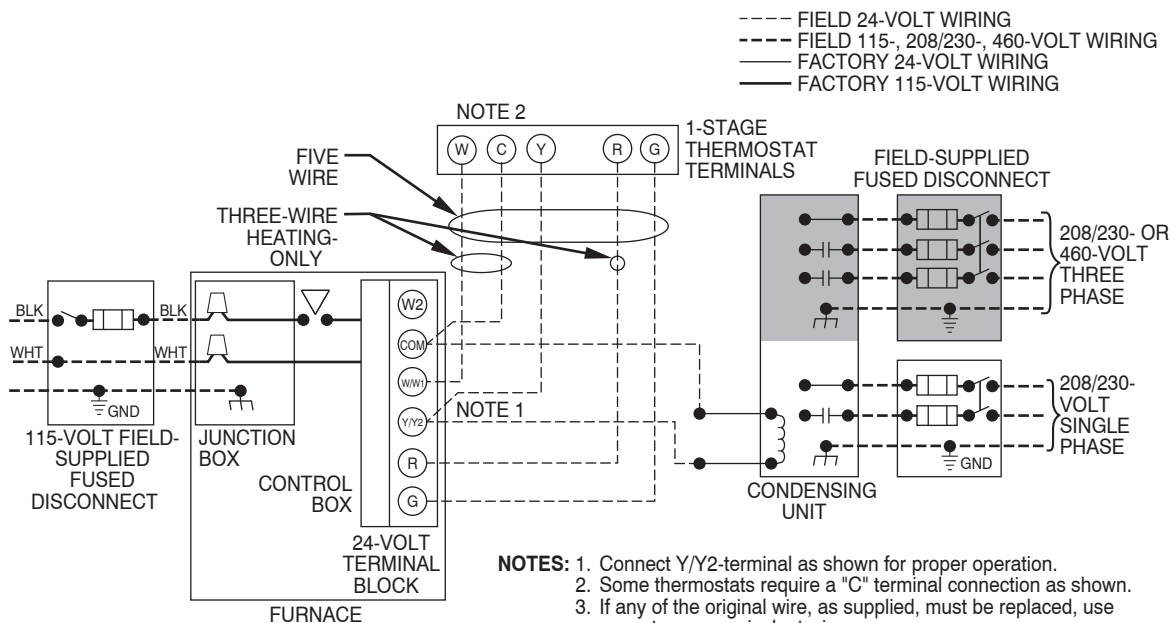

Fig. 23 - Field Wiring Diagram
See Fig. 23 for field wiring diagram showing typical field 115-v wiring. Check all factory and field electrical connections for tightness.
12. Complete electrical box wiring and installation. Connect line voltage leads as shown in Fig. 23. Use best practices (NEC in U.S. for wire bushings, strain relief, etc).
5. Connect line voltage leads as shown in Fig. 23.